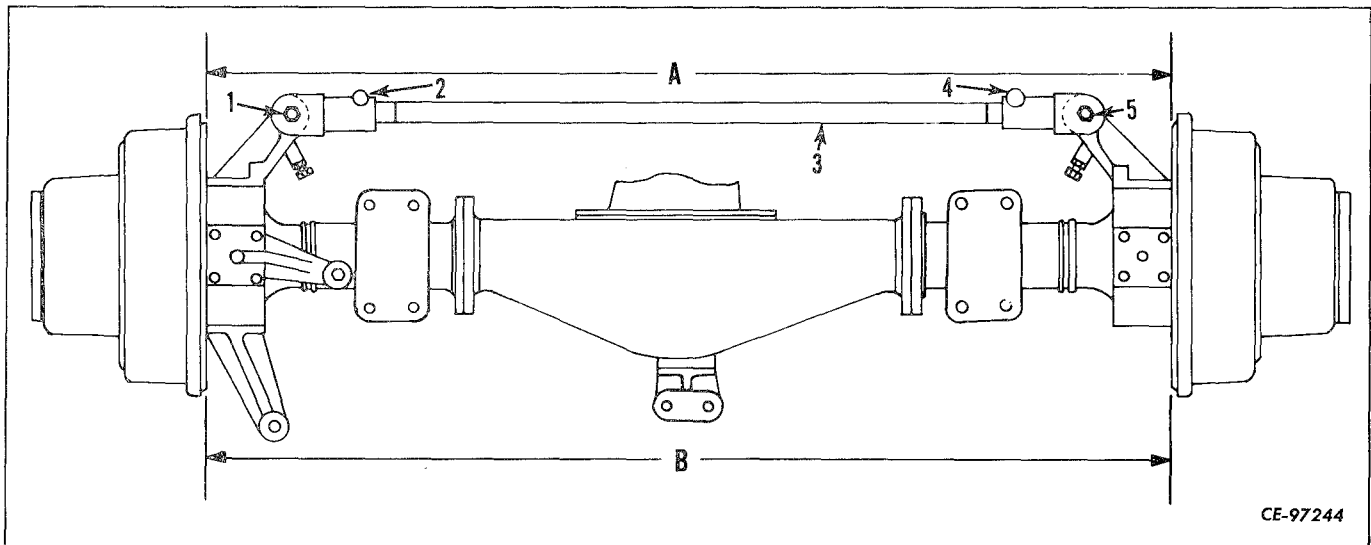

Figure 7-6
Position hubs and drums in straight ahead position. Using brake backing plates as reference points, check measurements at "A" and "B" (Fig. 7-6). For correct alignment distance "A" and "B" must be equal. When an adjustment is required, lengthen or shorten tie rod (3) to compensate. To insure equal adjustment at both ends of drag link, loosen clamp bolts (2, 4), remove either clevis pin (1 or 5) and swing tie rod clear of differential. Hold disconnected clevis and rotate tie rod to lengthen or shorten it. Shortening rod will increase distance "B." Lengthening will increase distance "A." After adjustment replace clevis pin and tighten nut to recommended torque (refer to "SPECIAL TORQUES").